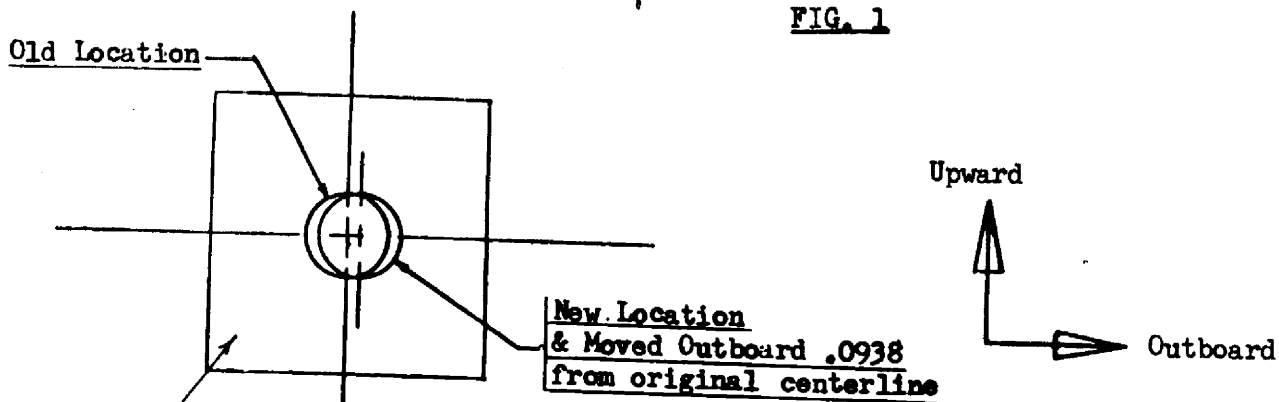

Fig. 2
11. Ream the hole in the 600102 firewall fuel fitting box. (See Fig. 2).